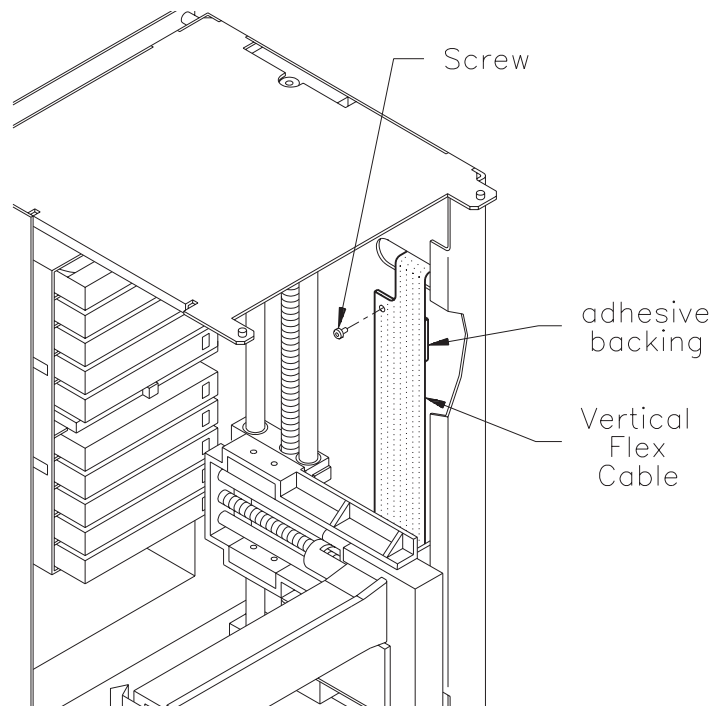

Figure 23-7 Vertical Flex cable connection on chassis wall
3. Locate the vertical flex cable. This is a ribbon cable connected to the VY card on the CHM and to the VMC card on the back of the chassis wall. Figure 23-7 shows the location of the vertical flex cable.
**Note:** Some vertical flex cables have an adhesive backing and either one or two screw holes for attachment to the inside of the chassis wall, as shown in Figure 23-7. Using a T-15 bit, remove the screws and peel the cable from the chassis.
**Note:** Some vertical flex cables have an adhesive backing and either one or two screw holes for attachment to the inside of the chassis wall. If your vertical flex cable has these connections, remove the adhesive backing and affix the cable to the chassis wall, as shown in Figure 23-7. Next, align the screw holes in the cable with the screw holes in the chassis. Replace the screws and tighten them with a T-15 bit to 12.0 inch-pounds of torque (13.8 kg-cm).